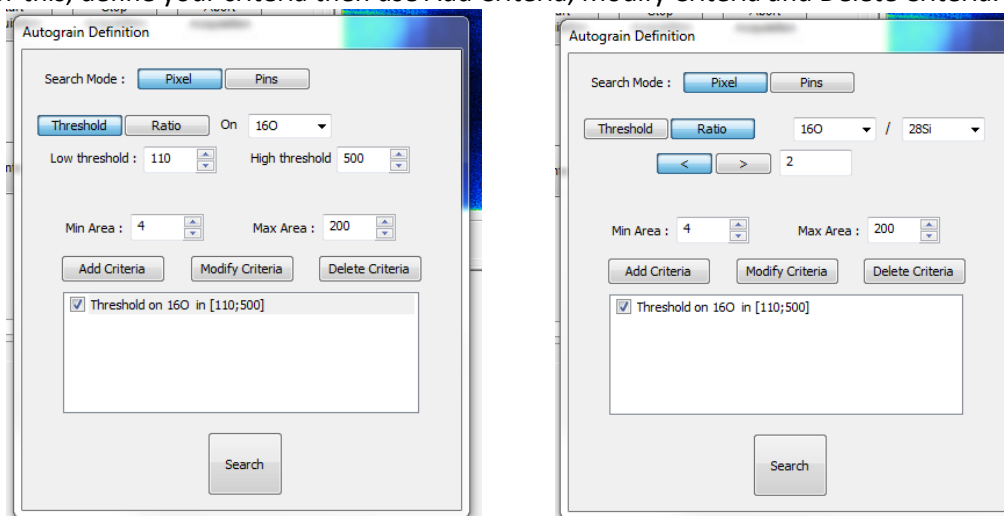

Figure 371: Options of the grain selection in Auto-grain mode. By pixel intensity thresholds (left) or by signal ratios (right)
- In the pop-up window, define the conditions of the “auto-grain” selection. Several options are available (Figure 371):